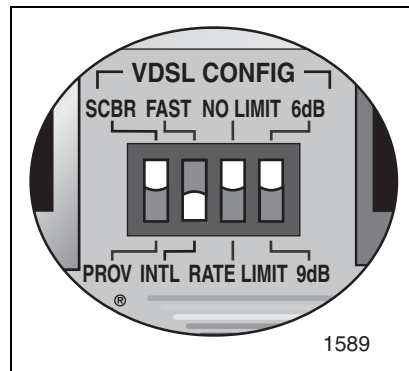

Figure 7. Configuring AT-MC605 Ethernet Extender for Subscriber Mode
4. Configure the right VDSL CONFIG switch (SCBR/PROV) to the SCBR position as shown in Figure 7.
1. Configure the right VDSL CONFIG switch (SCBR/PROV) to the SCBR position as shown in Figure 7, “Configuring AT-MC605 Ethernet Extender for Subscriber Mode” on page 35.